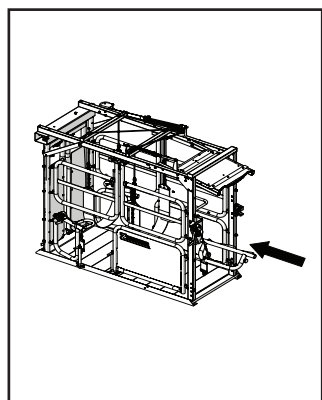

Figure 5: Loading the animal
2. The animal should approach from the rear of the chute as shown (Figure 5).